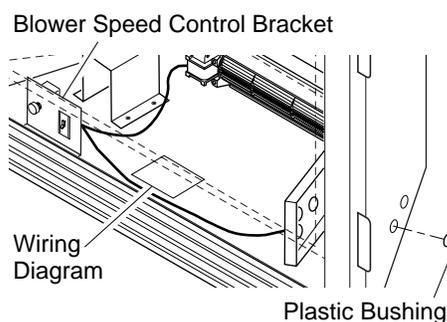

Figure 33 - Installing Plastic Bushing
- a. **If your fireplace system is installed as a freestanding unit with an accessory mantel,** determine whether the power cord will exit the left side or the right side of the firebox. Install one plastic bushing provided into the 1 1/2" hole in the outer casing through which the power cord will exit. Install the second plastic bushing provided into the floor support bracket if exiting through the right side (see Figure 33). Route power cord through (both) plastic bushing(s) and plug the power cord into a properly grounded 3-prong wall receptacle near the firebox.